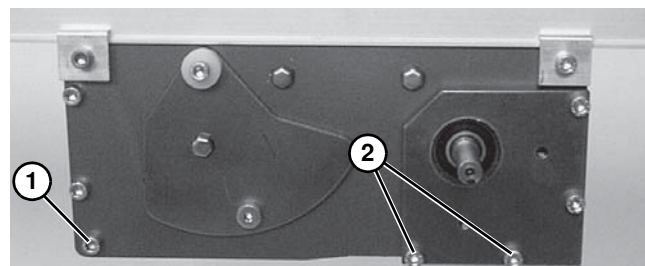

Figure 53
10. Tighten corner screws (**Figure 53, item 1**) on each side of the drive module to 9 Nm.
12. Re-install tension door screws (**Figure 53, item 2**) on each side of the module. Tighten screws to 6.8 Nm.
*With vertically mounted gearmotors, tension door screws (**Figure 53, item 2**) are installed on one side when the gearmotor mounting package is installed.*